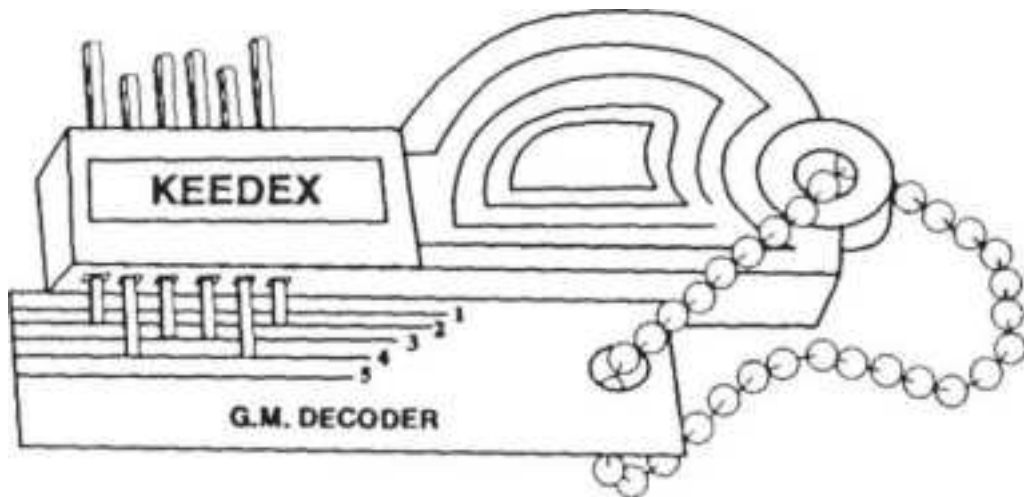

**Figure 2.33** A General Motors Decoder decodes the tumblers in a GM lock without complete disassembly of the lock. (*Keedex Mfg .*)
- General Motors lock decoder (Fig. 2.33 )